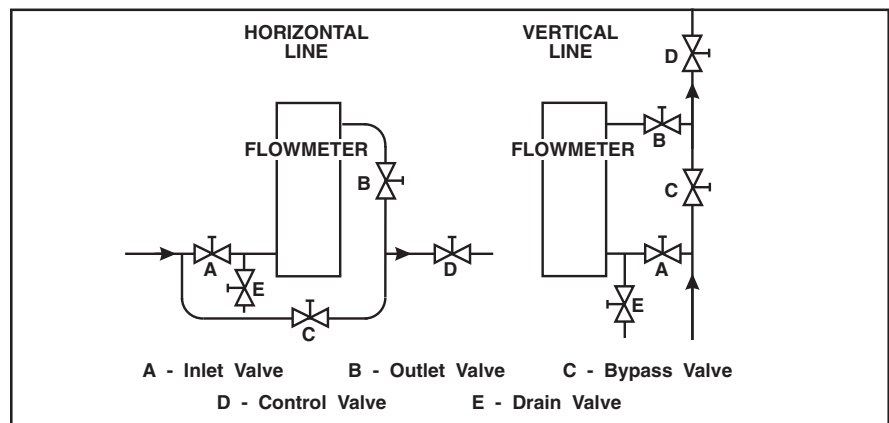

Figure 2-1 Typical Installation
- E. Installation of a bypass piping arrangement is recommended, Refer to Figure 2-1. Bypass piping permits the meter to be isolated from the flow line for servicing and cleaning.